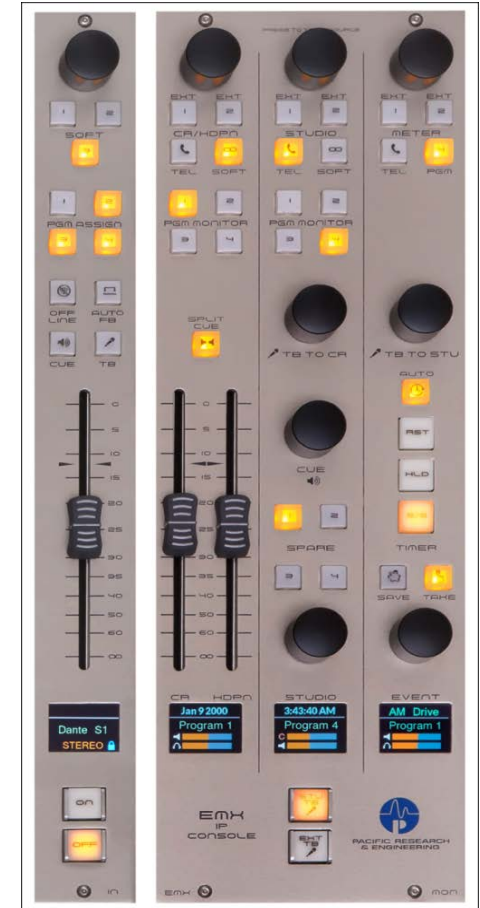

Figure 1-4 EMX Surface Controls
Each Quad Fader panel has four fader channels (one channel strip is shown in Figure 1-4), each has a 100 mm conductive-plastic fader for bus level control plus thirteen LED illuminated channel buttons for: Channel Off; Channel On; Cue on/off; momentary Talkback (TB); Telco Auto FB (Fold Back) on/off; five bus assignment buttons (Off Line, PGM 1, PGM 2, PGM 3, and PGM 4); and three user-assigned Soft buttons.